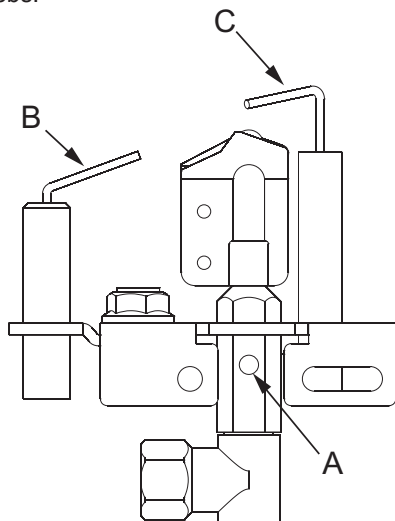

Figure 75 - Intermittent Pilot
1. Use canned air to blow through hole A. **See Figures 75.** This will blow out foreign materials such as dust, lint and spider webs.
2. If intermittent pilot fireplace stops working, clean flame sensor B **Figure 75** with a damp cloth.
3. If intermittent pilot ignitor does not spark, clean ignitor C **Figure 75** with a damp cloth.